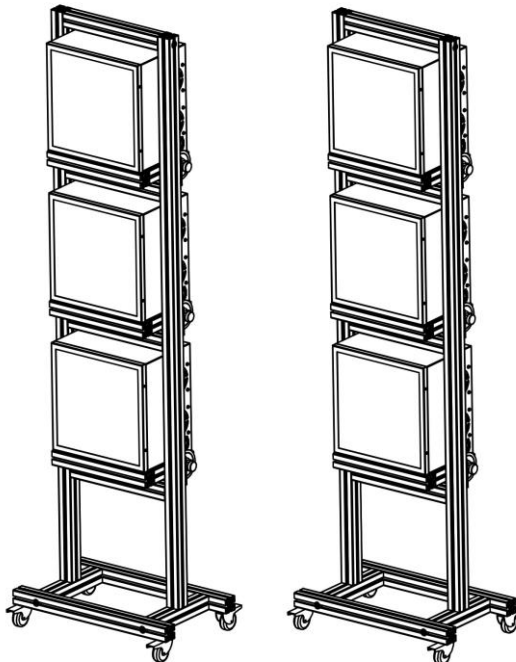

Fig. 2.4 Aluminium frame holder for 45/0 illumination
3. Customized aluminium frame rack for 45/0 illumination. As shown in Fig. 2.4. This solution is designed for the camera large test chart/model scene. High illumination uniformity (>90%) on the large test chart is guaranteed.